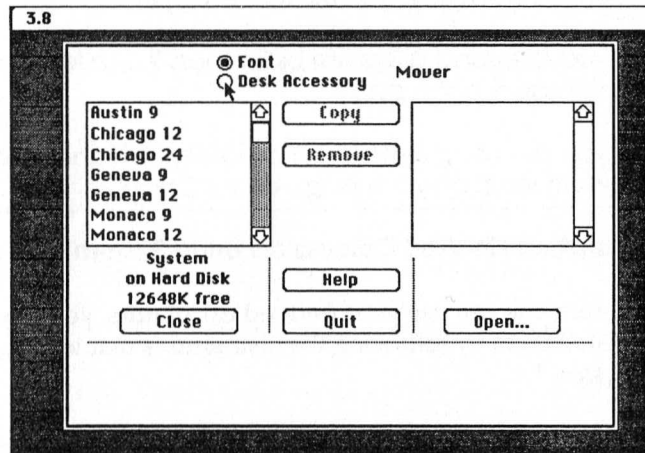

Figure 2-1 Clicking the desk accessory radio button
- 1 Start the *Font/DA Mover* by double-clicking its icon (shown at left). The screen shown in figure 2-1 will appear.
If you want to install desk accessories, Click the *Desk Accessory* radio button (at top of figure 2-1), to display the list of desk accessories instead of the fonts.